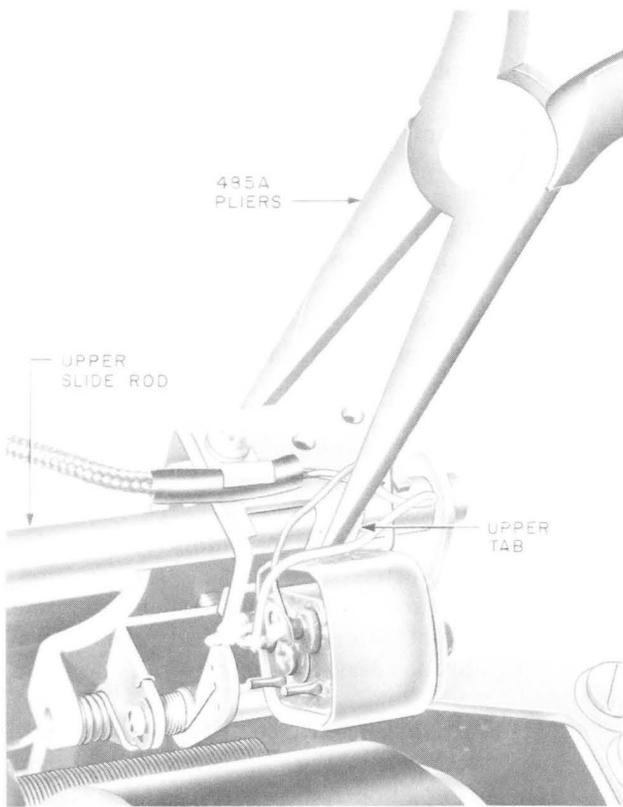

Fig. 13—Method of Adjusting Upper Tab for Minimum Clearance
- (1) To reduce clearance, using the 485A pliers as shown in Fig. 13, bend the tab toward the upper slide rod.
- (2) To increase the clearance, bend the tab away from the upper slide rod. To do this, it is necessary to remove the brass bracket.